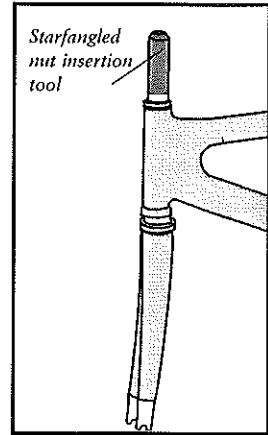

Fig. 37
5. Thread the star-fangled nut insertion tool into the star-fangled nut already installed in the fork steerer tube (Fig. 37).